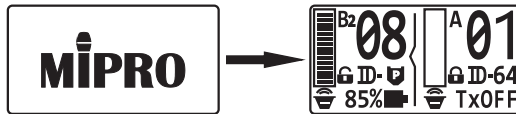

Fig. 8
2. Receiver Home Screen status once powered on, Fig. 8: